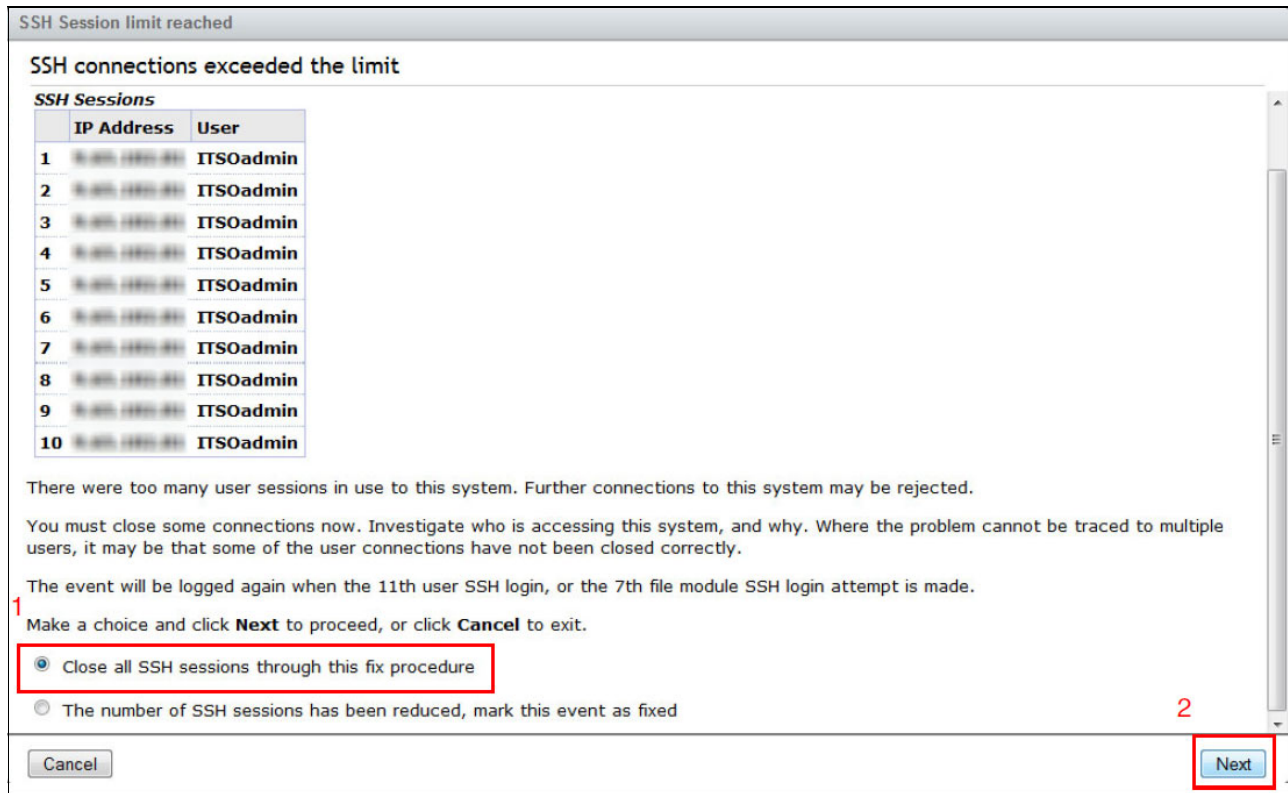

Figure 7-18 SSH Session limit reached
3. To fix this error, choose the **Run Fix Procedure** (described in *Implementing the IBM System Storage SAN Volume Controller with IBM Spectrum Virtualize V8.1*, SG24-7933). A list with active SSH sessions is displayed (Figure 7-18 on page 210). The quickest way to resolve the error is as follows: